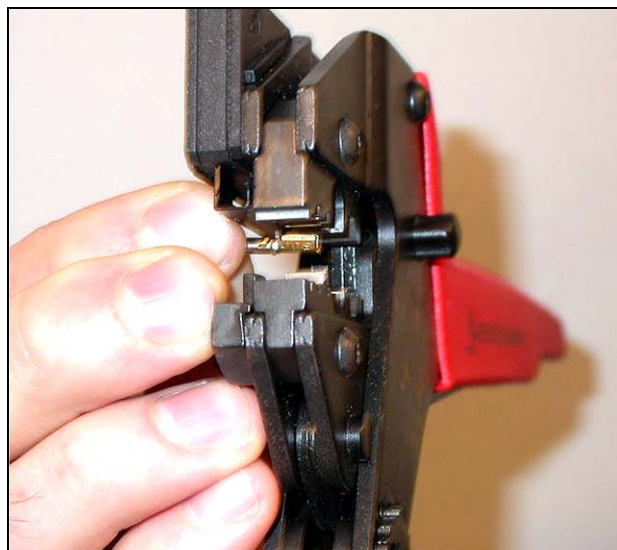
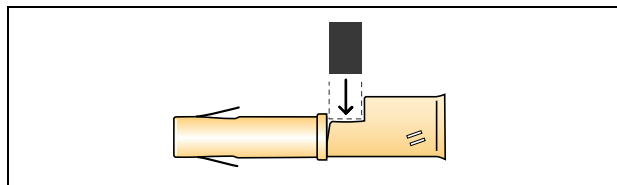

figure 3.8: Crimping a socket contact (1)
figure 3.9: Positioning a socket contact
- 10 Put a socket contact in the crimping tool (tool 3, see figure 3.8). The upper part of the crimping tool contains a ridge for positioning the socket contact in the tool (see figure 3.9).